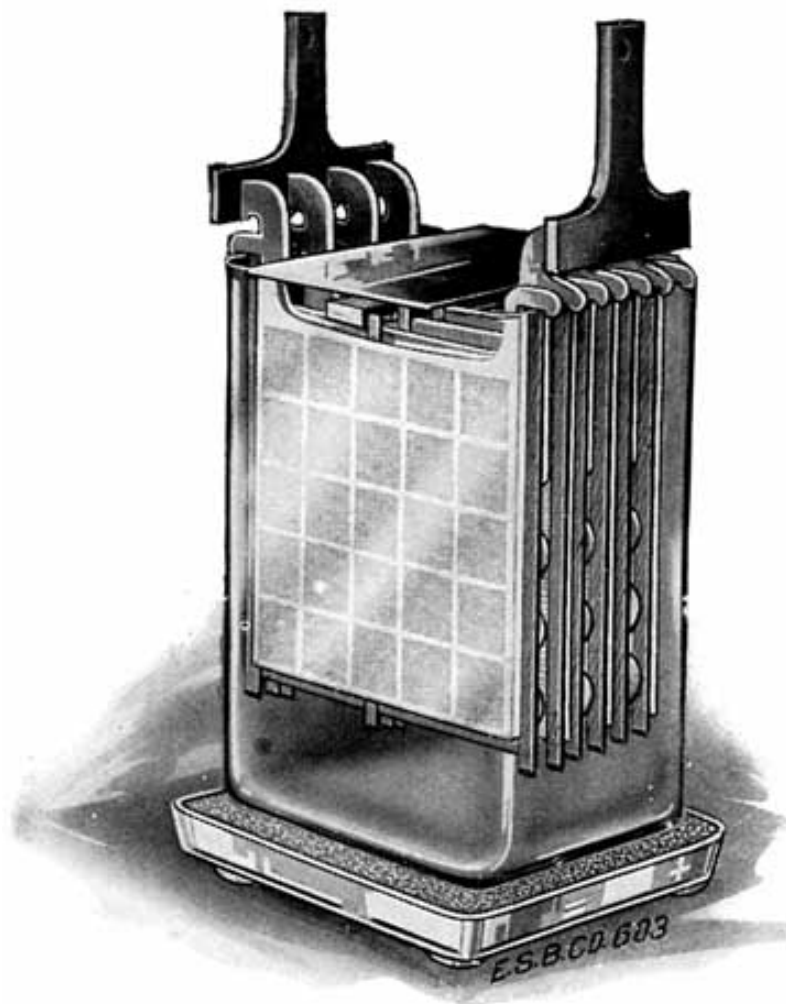
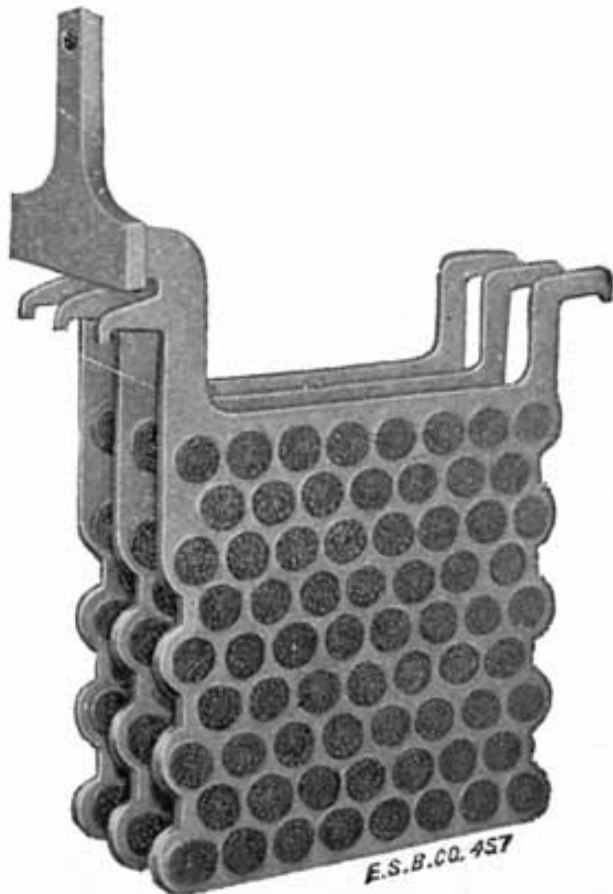

Fig. 323. Exide Chloride Accumulator Cell with Open Glass Jar
Fig. 325. Manchester Positive Plates
Batteries with open glass jars, in addition to the conducting lug, have two hanging lugs for each plate. The plates are hung from the jar walls by these hanging lugs, as shown in Figs. 323 and 324. The plate straps, instead of being horizontal are vertical and provided with a tail so that adjacent cells may be bolted together by bolt connectors through the end of the tail.
2. The Chloride Accumulator cell is shown in Fig. 323. It differs from the Exide only in type of plates and separators. The positive plates are known as Manchester positives and have the active material in the form of corrugated buttons which are held in a thick grid, as shown in Fig. 325. The buttons are brown in color, the same as all positive active material.